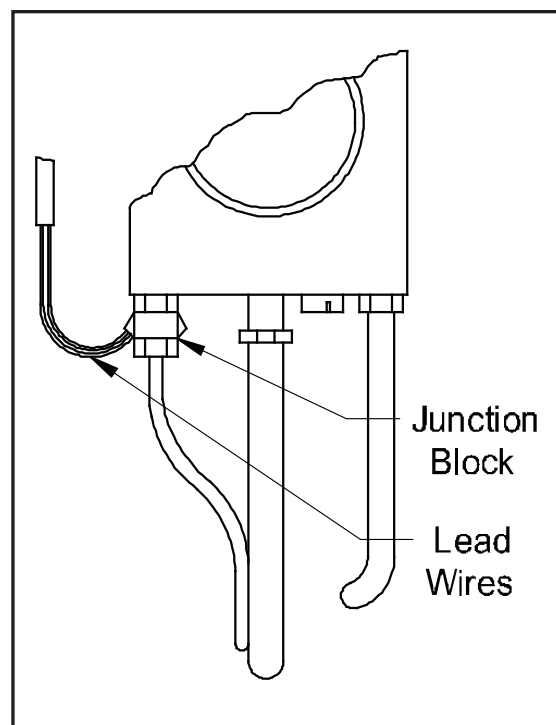
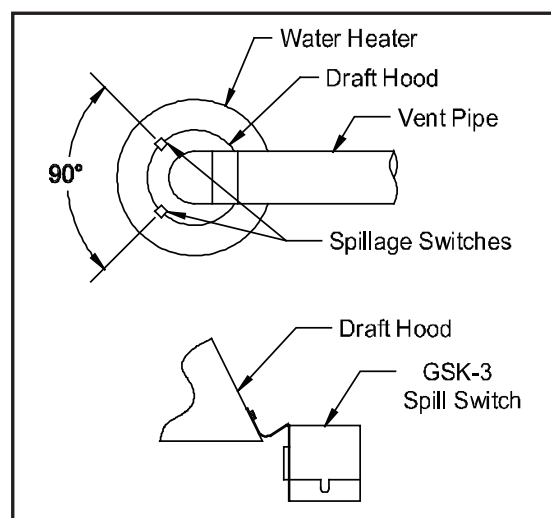

Figure 6
Figure 7
2. Thread the junction block into the thermocouple port and thermocouple into the bottom of the junction block. Connect lead wire from the junction block to the jacketed lead wires or wire enclosed in an accepted wiring enclosure. (See Figure 6) NOTE: Draft spillage switches must be mounted 90 degrees apart, and mounted opposite from the vent outlet direction. (See Figure 7)